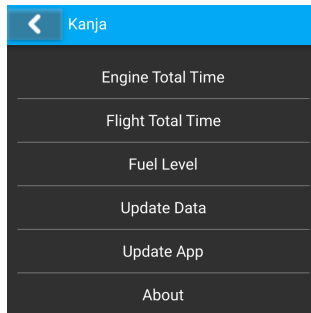

Figure 12: A page with special commands.
When a global menu symbol is selected (denoted as ⑥ on Figure 4), a page with special commands appears. Figure 12 shows an example.